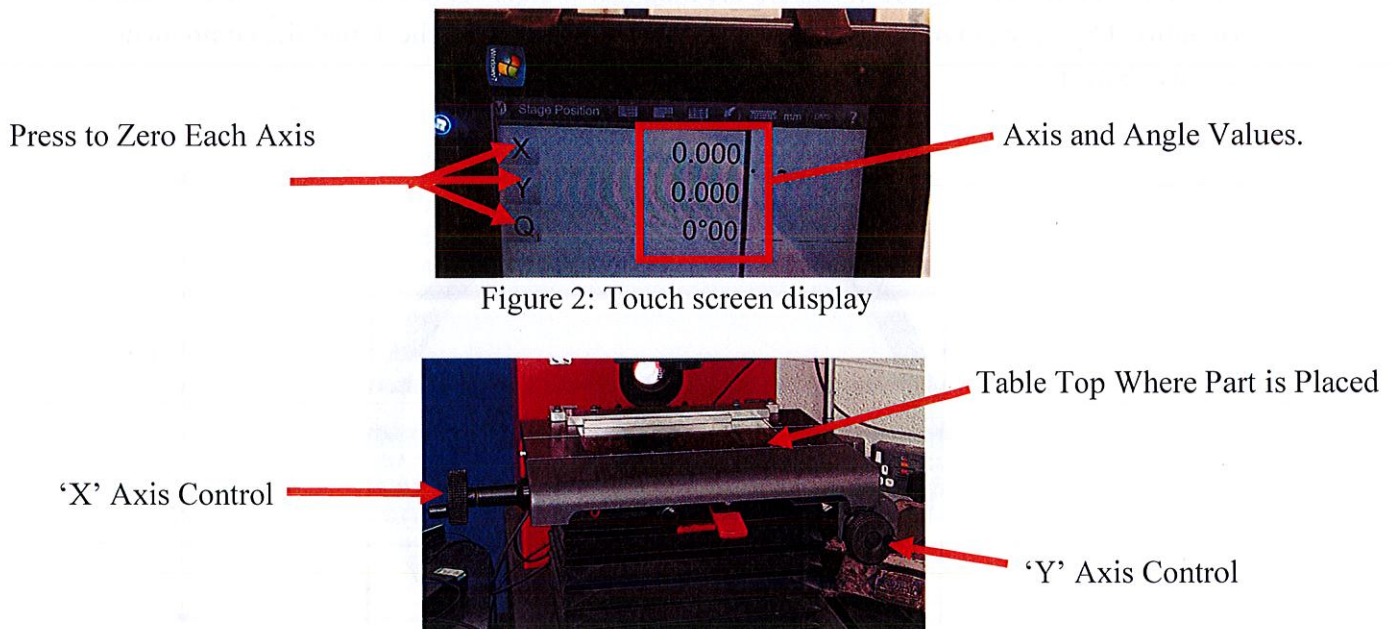

Figure 3: Shadow graph table with axis controls.
6.1.4. Use of the Shadow Graph Controls. Figure 3 shows the controls for the x and y axis. Wind the handles to move the table. Figure 2 shows the touch screen display. Press the axis letter to zero the measurement value.